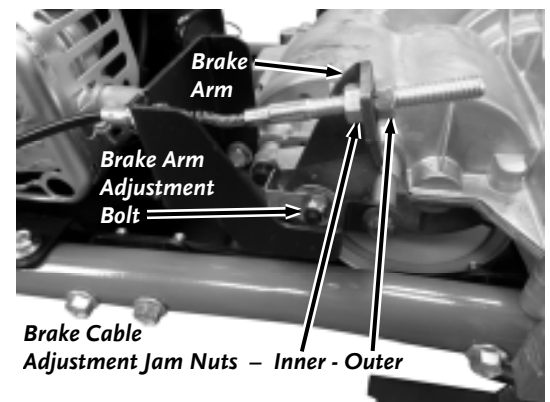

Figure 51
1. Turn the Adjustment Nut on the Brake Arm 1/4 turn clockwise with a 1/2" Wrench to tighten the Brakes (**Figure 51**).
1. Turn the inside Jam Nut a full turn away from the Brake Arm (**Figure 51**).